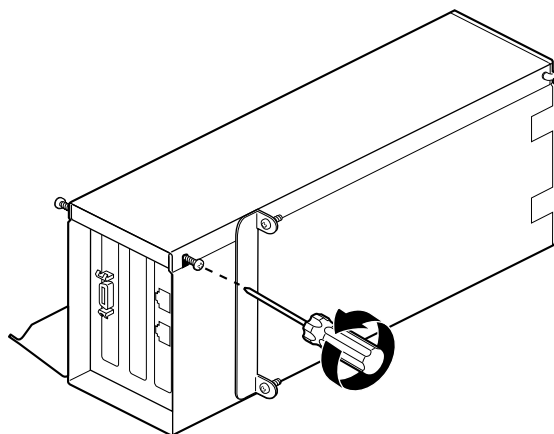

Figure 4-11 Loosening the Screws on the PCI Module
1. Turn the PCI module as shown in Figure 4-11.